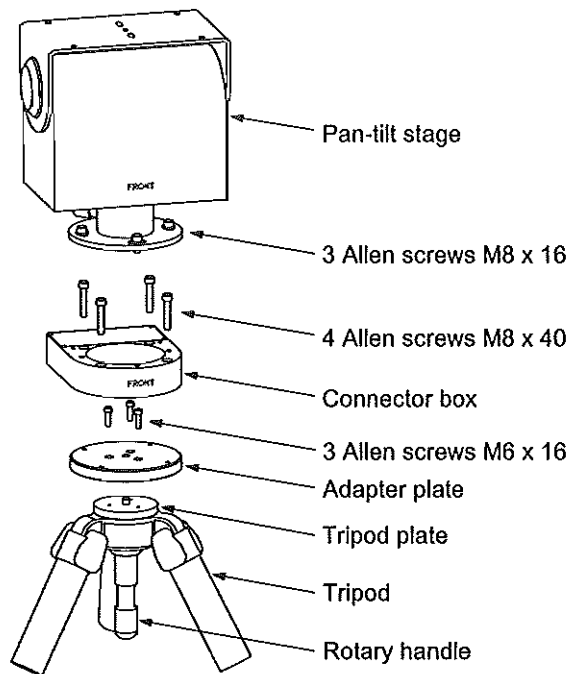

Figure 3.20: Mounting the pan-tilt stage on the tripod
10. Now mount the adapter plate on the top of the tripod plate using 3 Allen screws M6x 16 as also shown in FIGURE 3.20.